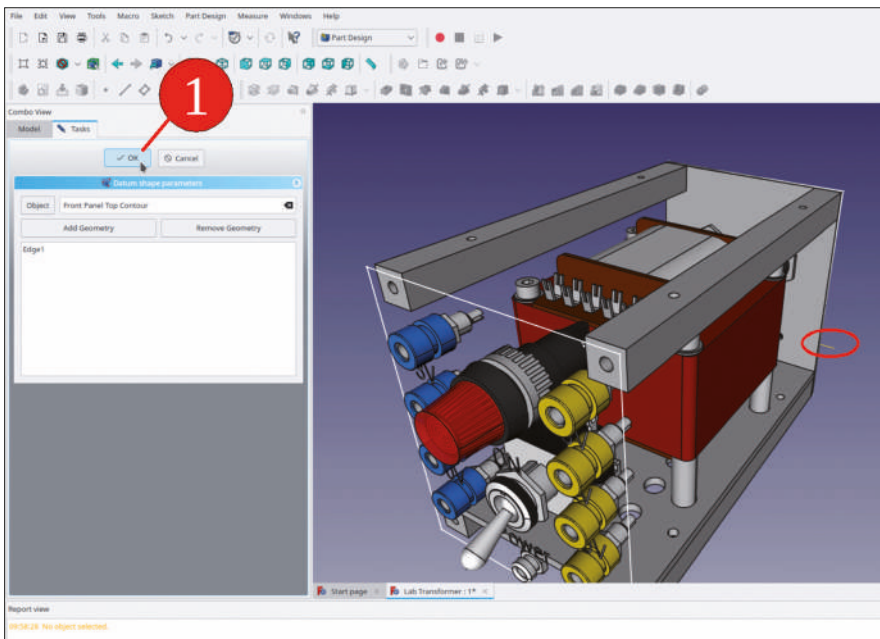

Figure 9-105
3. In the task window, the selection of the object (the sketch 'Front Panel Top Contour') and the upper line (edge 1) is preset (Figure 9-105) because of our prior markup. Close the task window with the OK button.